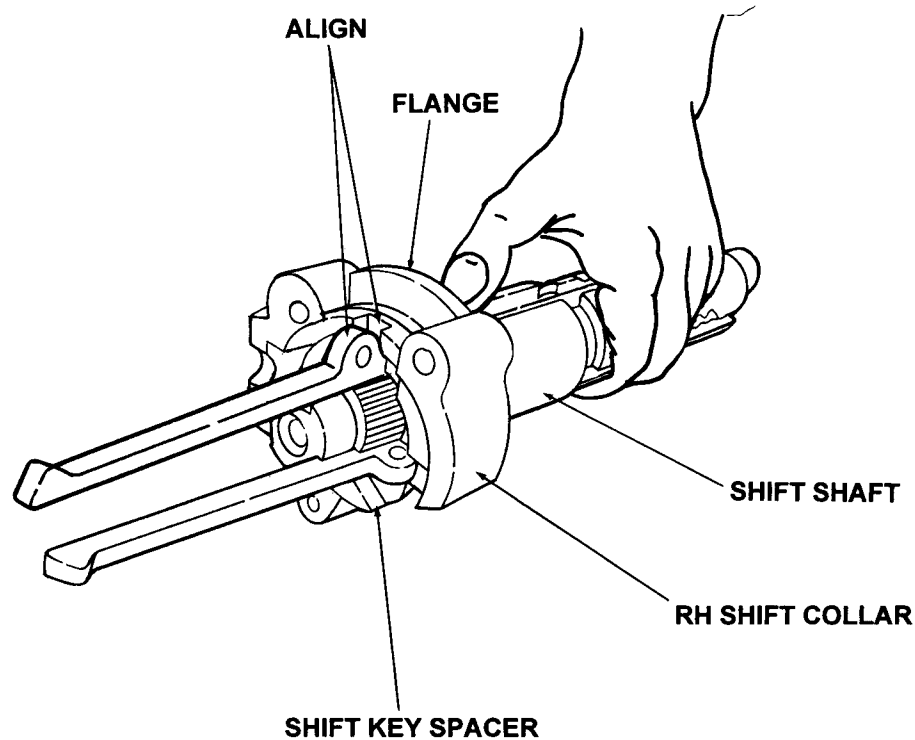

Figure 5-39. Installing Shift Keys (Models 2130, 2140 and 2160).
For reassembly purposes, the distinguishing feature of the RH shift collar is its interlock engagement flange (Fig. 5-39). The detent notches and splines (for brake drum) are on the right hand end of the shift shaft.
- a. Install a shift key spacer (3) into the RH shift collar (14).
- b. Holding the gear engagement end of one shift key (10), hang the spacer/RH collar assembly in the collar notch of the key (10). Align the key slot of the spacer (3) with the dowel pin boss of the key.
- c. With a keyway facing upward, hold the shift shaft (12) in the other hand. Slide the key (with spacer and collar) into the keyway on the left end of the shift shaft (see Fig. 5-39). Placing your thumb on the spring boss of the key, position and hold the key/collar assembly on the splined shoulder at the left end of the shaft.
- d. While maintaining thumb pressure on the installed key (10), insert and hold the other two keys in the keyways of the shaft (12). Grasping the collar and keys, lift the collar over the larger shoulder of the shaft and slide the collar and keys fully to the right end of the shaft.
- e. Place the second shift key spacer (3) into the LH shift collar (2). Slide the assembly onto the shift shaft (12) until beyond the ends of the shift keys and to the right of the neutral slot.
- f. Place both neutral spacers (1) together, with the flat face of the three internal teeth touching, and the beveled face of the teeth facing outward.
- g. While holding the neutral spacers (1) together, align the internal teeth with the keyways of the shift shaft (12) and slide the spacers toward the neutral slot of the shaft. When aligned with the neutral slot of the shift shaft (12), rotate each spacer (1) 1/8 turn so the teeth lock in the neutral slot.
- h. Slide the RH collar/key assembly slightly leftward to position the gear engagement surface of the keys inside the neutral spacer (1). This will lock the neutral spacers onto the shaft, and also position the keys for installation of the dowel pins (11).
- i. Align the dowel pin bosses of the shift keys (10) with the "neutral" detent notches of the shaft (12) and the key slots of the spacer (3); then rotate the RH shift collar (14) so its side opening aligns with the dowel pin hole in one of the keys, in the direction from which the dowel pin (11) is to be inserted.